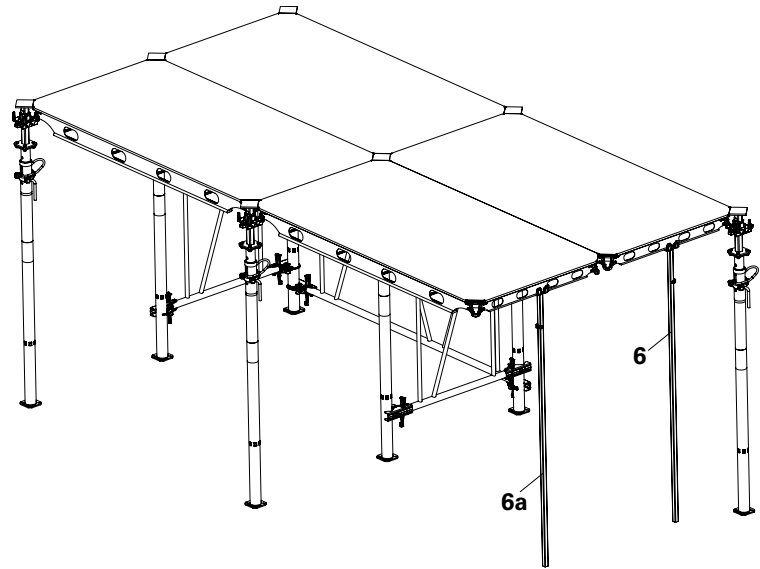

Fig. A4.11
5. Now, both the shuttering aids (**6**) and (**6a**) act as temporary support until the next prop is attached to the panel corner. (Fig. A4.11)